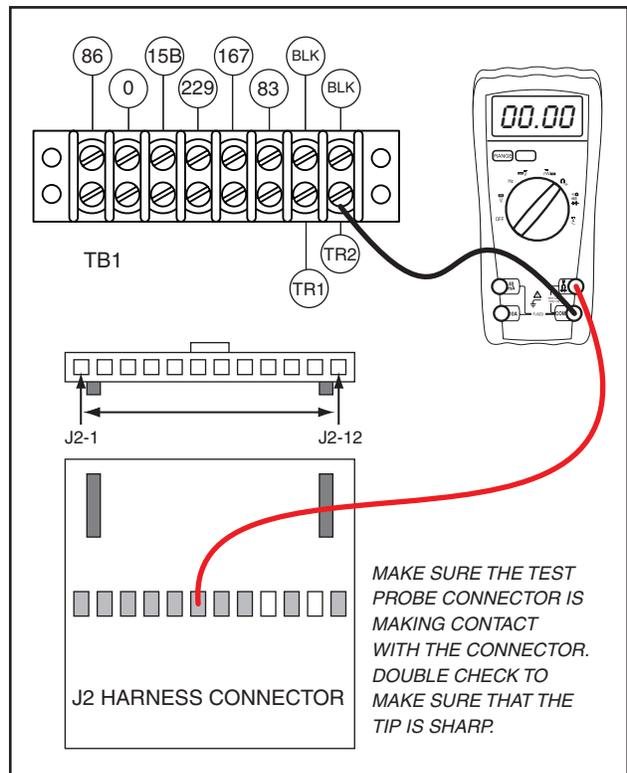

Figure 6-62. – Check TR2 Wiring
3. Connect one meter test lead to Wire TR2 at Terminal Block 1 (TB1). See Figure 6-62. Connect the other meter test lead to pin location J2-6 on the J2 Connector previously removed. Be careful not to damage the pin connectors with the test leads. Continuity should be measured.